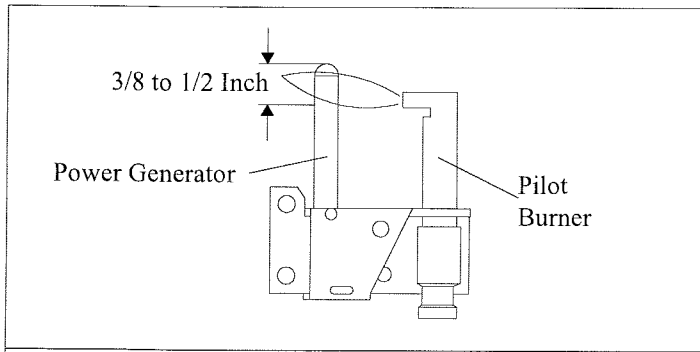

FIGURE 8. PILOT BURNER ADJUSTMENT
2. Adjust pilot key to provide properly sized flame. See **Figure 8 for properly sized flame.**